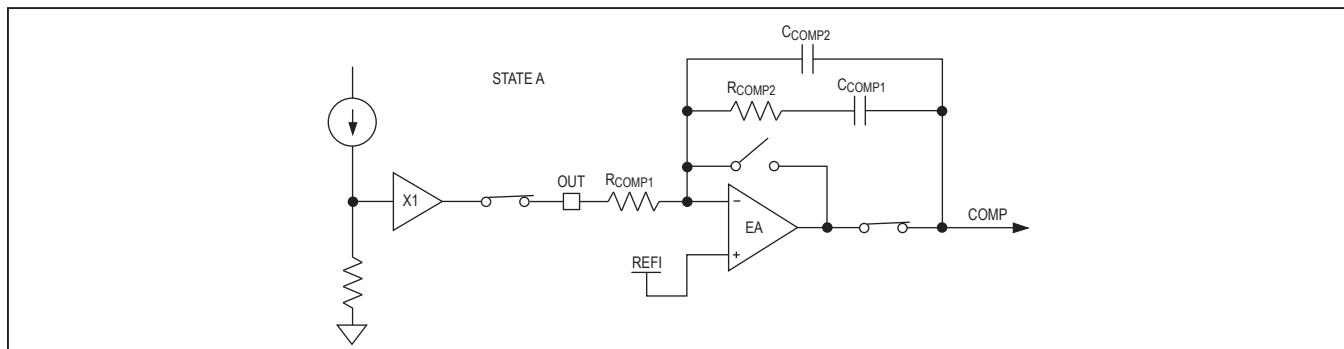
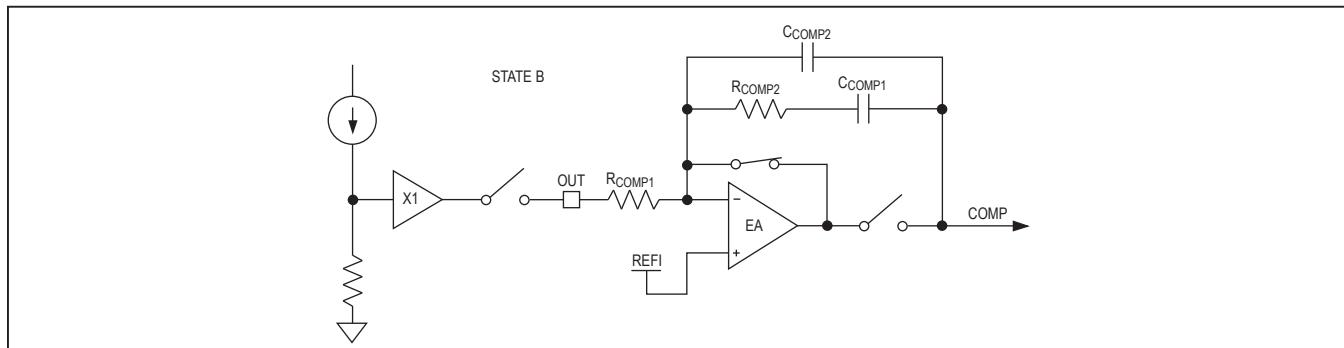
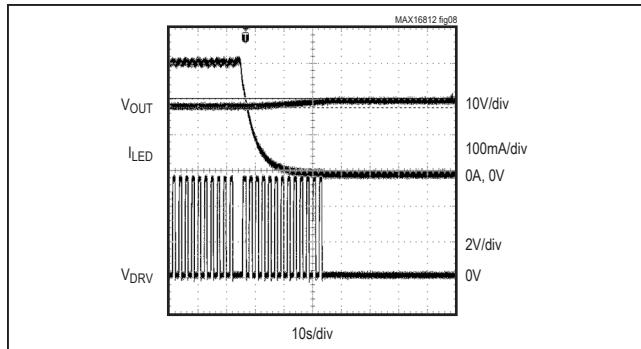

Figure 4. Internal Error Amplifier Connection (Dimming Signal High)
Figure 5. Internal Error Amplifier Connections (Dimming Signal Low)
Figure 8. LED Current, Output Voltage, and DRV Waveforms when DIM Signal Goes Low
The MAX16812 includes a built-in voltage-error amplifier, which can be used to close the feedback loop. The internal LED current-sense output signal is buffered internally and then connected to CS_OUT through an internal switch. CS_OUT is connected to the inverting input (FB) pin of the error amplifier through a resistor. See Figures 4 and 5. The reference voltage for the output current is connected to REFI, the noninverting input of the error amplifier. When the internal dimming signal
is low, COMP is disconnected from the output of the error amplifier and CS_OUT is simultaneously disconnected from the buffered LED current-sense output signal (Figure 5). When the internal dimming signal is high, the output of the op amp is connected to COMP and CS_OUT is connected to the buffered LED current-sense signal at the same time (Figure 4). This enables the compensation capacitor to hold the charge when the DIM signal has turned off the internal switching MOSFET gate drive. To maintain the charge on the compensation capacitors CCOMP1 and CCOMP2, the capacitors should be of the low-leakage ceramic type.
PWM dimming can also be achieved by connecting TGRM to a DC voltage less than V_{REF} and applying the PWM signal at DIM. The moment the internal dimming signal goes low, gate drive DRV to the internal switching MOSFET is turned off. The error amplifier goes to state B (see the *Internal Error Amplifier* section and Figures 4 and 5). The peak current in the inductor prior to disabling DRV is I_{LX} . Gate drive DGT to the external dimming MOSFET is held high. Then after a switchover period, gate voltage V_{DGTR} on the external dimming MOSFET is linearly controlled to reduce the LED current to 0. The fall time of the LED current is controlled by an internal timing circuit to 5µs for the MAX16812. During this period, the gate (DRV) to the internal switching MOSFET is enabled. After the fall time, the gate drive to the external dimming MOSFET is turned off and the gate drive to the internal switching MOSFET is still held high after the switchover period. The peak current in the inductor is controlled at I_{LX} . Then after a time period of 20µs, the gate drive is disabled. The scope shots in Figures 8–11 show the dimming waveforms.
When the DIM signal goes high, the LED current is gradually increased to the programmed value. The rise time of the LED current is controlled to 5 μ s for the MAX16812 by controlling the voltage on DGT. After the rise time, an internal sensing circuit monitors the voltage across the drain to the source of the external dimming MOSFET. The LED current is now controlled at the programmed value by a linear current regulating circuit. Once the voltage across the drain to source of the dimming MOSFET drops below 0.5V, the reference for the linear current regulating circuit is increased to 1.1 times the programmed value. The gate drive (DRV) to the internal switching MOSFET is enabled and the error amplifier is returned to state A (see the *Internal Error Amplifier* section and Figures 4 and 5).